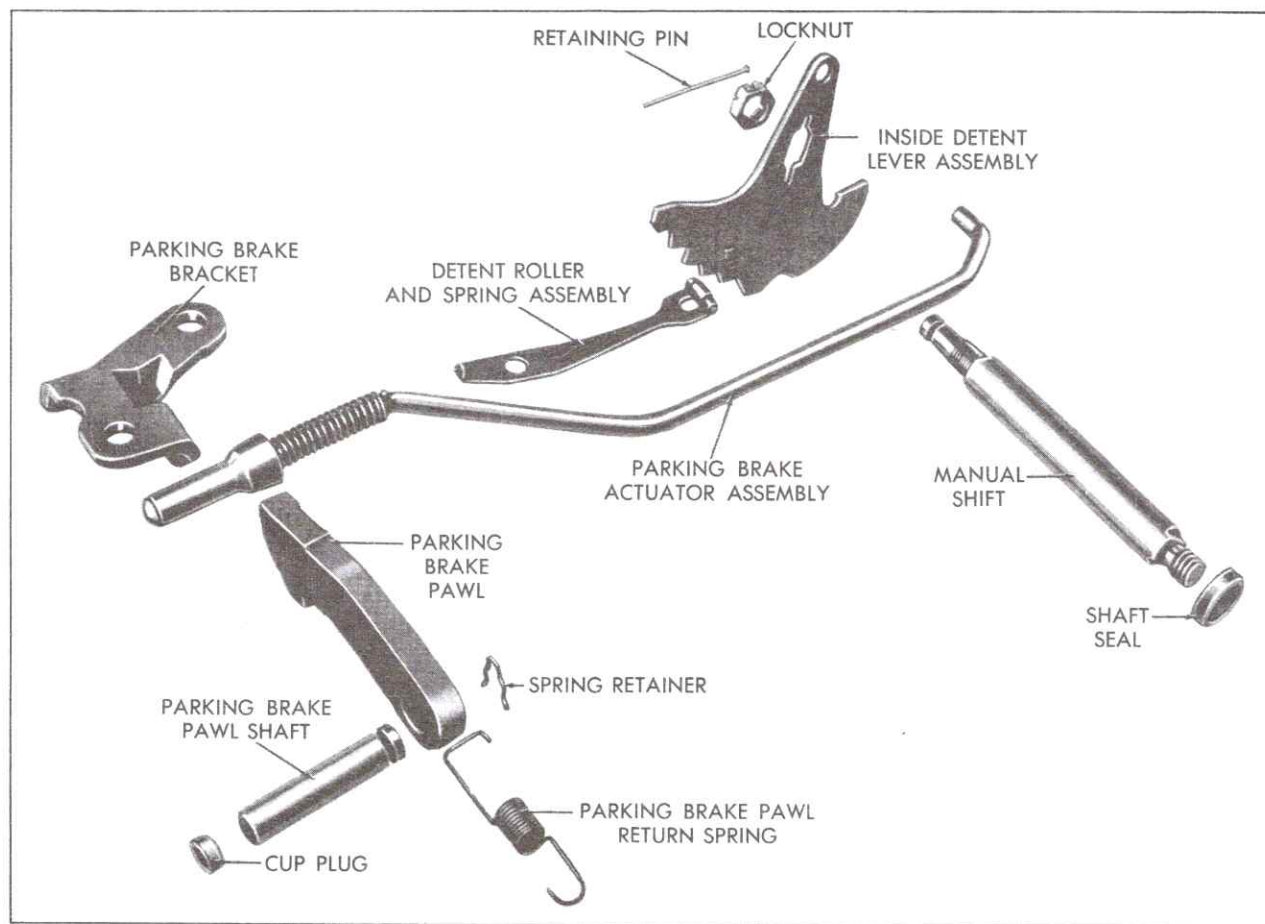

Fig. 7-40 Manual and Parking Linkage Disassembled
**l. Remove Detent Lever, Manual Shaft, and Parking Linkage (Fig. 7-40)**